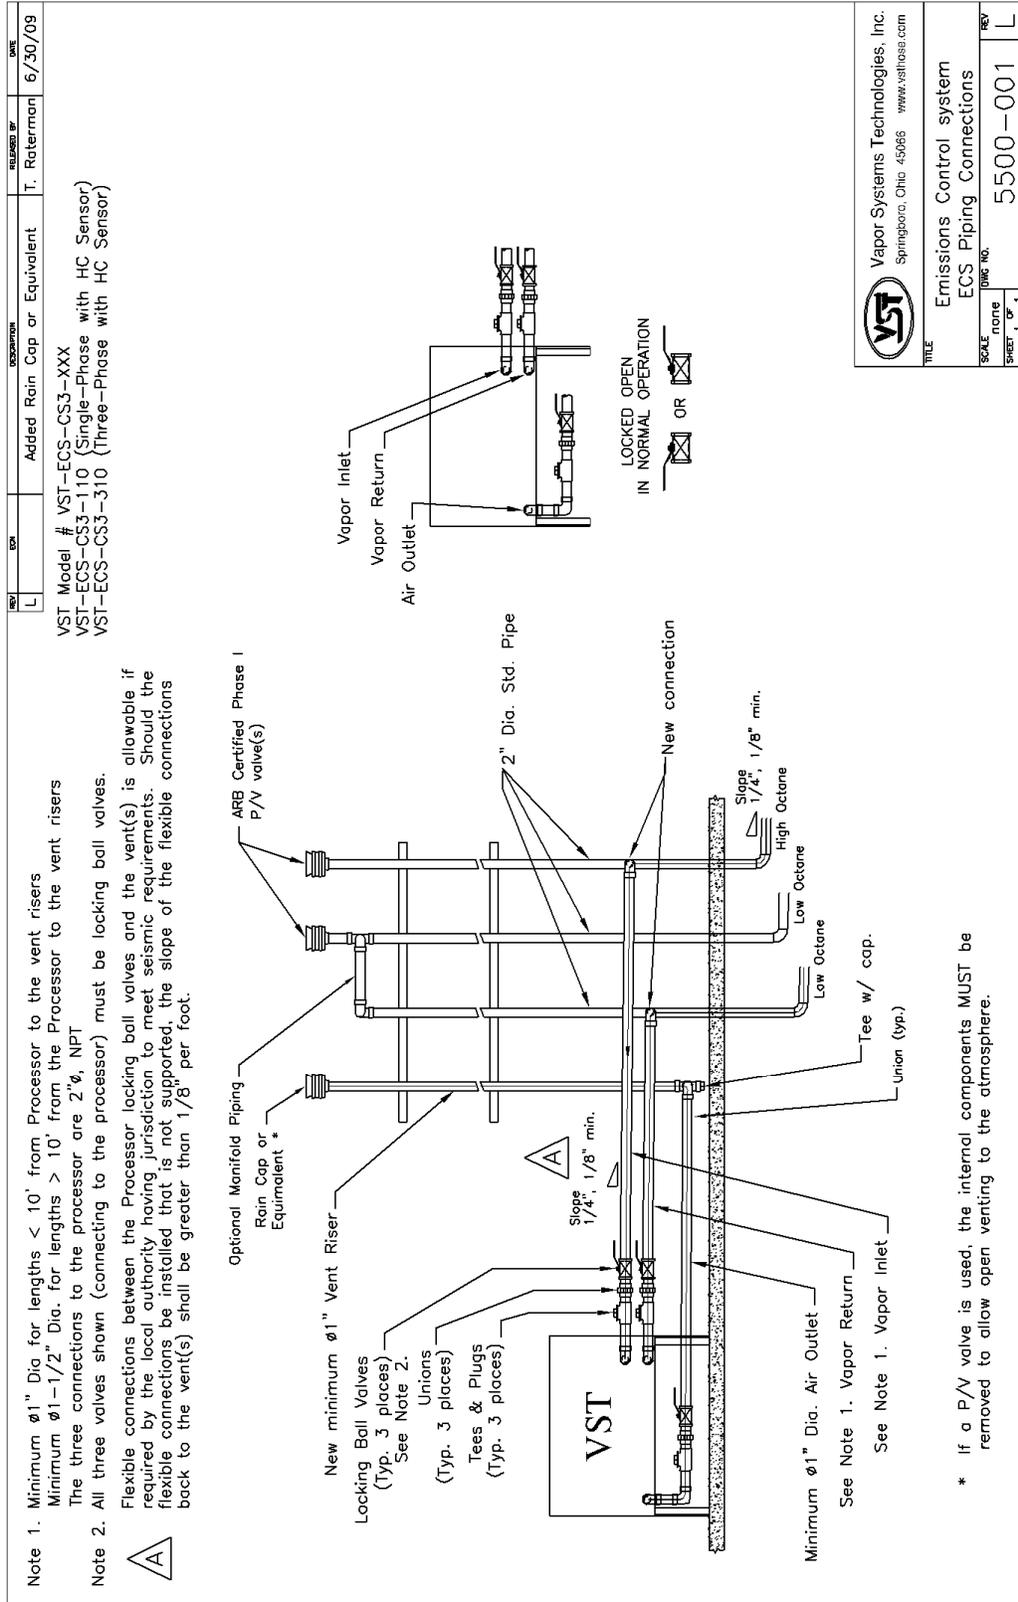

Figure 17: ECS Processor Piping Diagram
- See Figure 17 for pipe size requirements.
- The tee and the ball valve allow for isolation of the *Processor* from the vapor-piping system for maintenance and testing. See Figure 17.
See Figure 17.